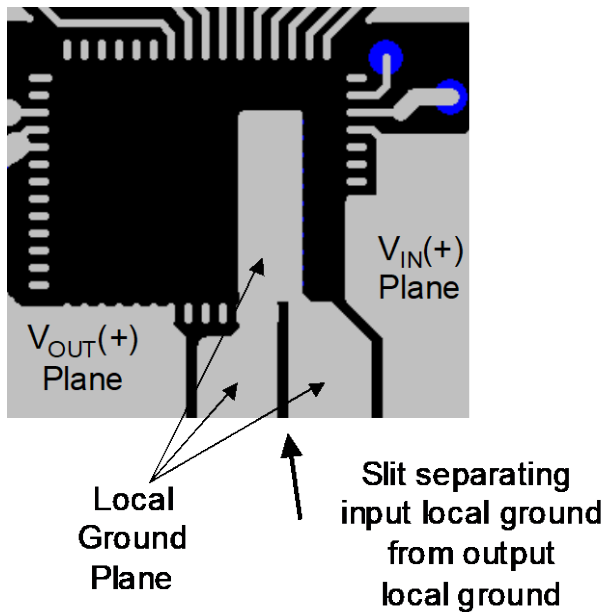

Figure 7. Layout of power and ground planes
**Recommendation 2:** Place a slit in the input/output capacitor ground plane just beyond the common connection point of the GND pins of the device as shown in figure 7.